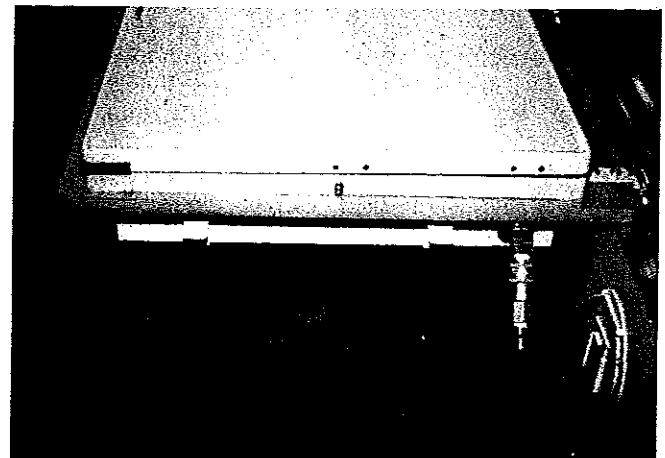

FIGURE 40
- I. Engage the gas disconnect on to the stove module. See Figure 40.